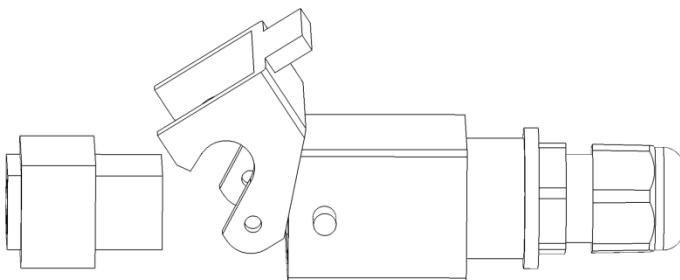

Figure 2: Remove the Connector
3. Pull out the connector from the protective cover (Figure 2).